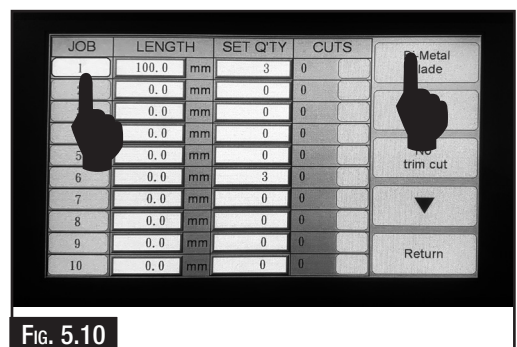

Fig. 5.10
9. Select the type of blade being used, Bi-Metal Blade or Carbide Blade.(Fig. 5.10)